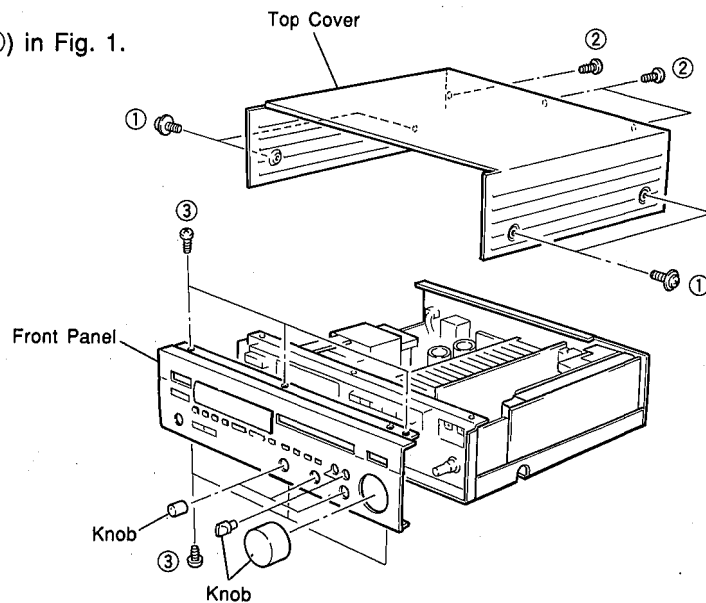

Fig. 1
Remove 4 screws (①) and 3 screws (②) in Fig. 1.
- b. Remove 6 screws (③) in Fig. 1.